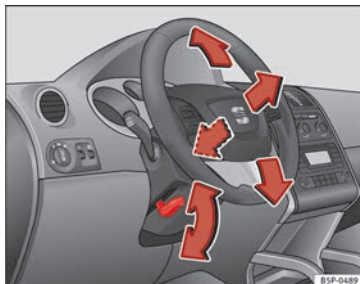

Fig. 3 Adjusting the steering wheel position.
- Push the lever under the steering column» **Fig. 3** down» **△**.